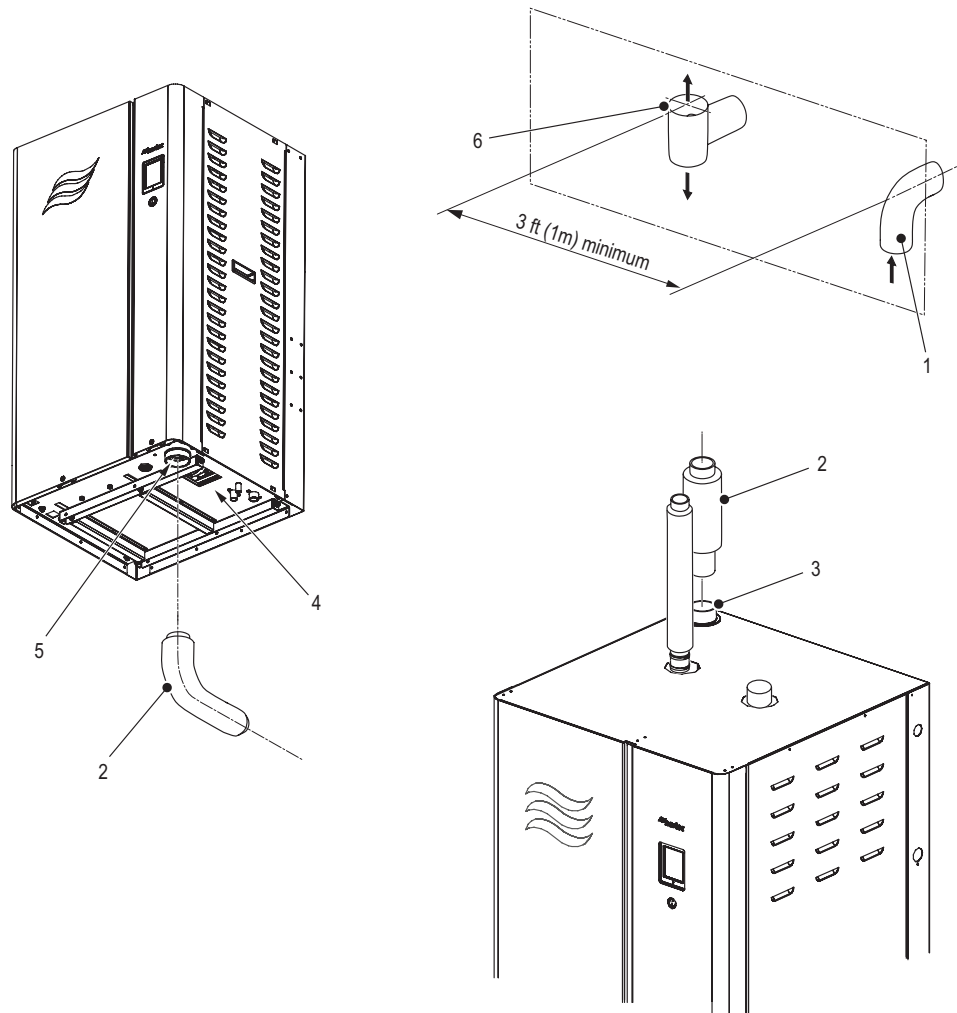

Figure 19: Nortec GS Sealed Combustion Connection
Figure 19 shows the sealed combustion connection for the compact and full-size Nortec GS humidifiers.
- An intake (elbow) terminal must be installed on the outside termination of the air intake vent, with the elbow facing down – refer to Figure 19 on page 41. The air intake terminal and exhaust vent terminal must be located on an exterior surface. The location and spacing between the terminals must comply with all local and national regulations, with at least a minimum spacing of 3 ft (1 m) between them.